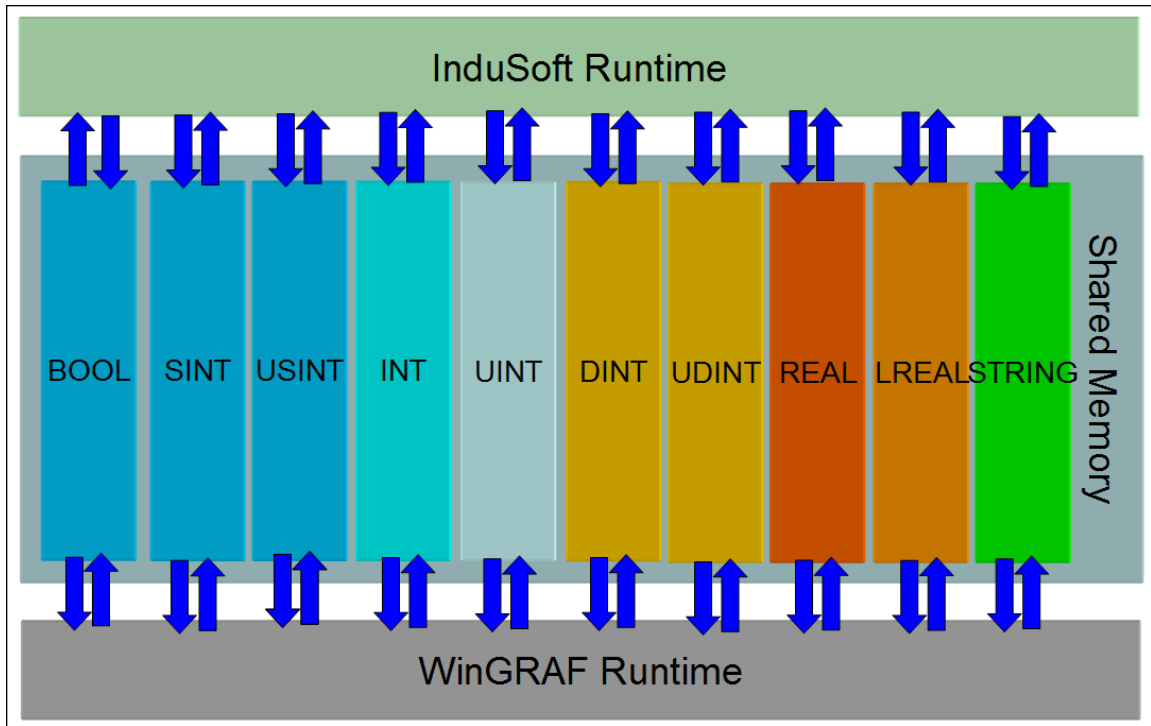

Figure 9: PLC data type memory
For each of these PLC data type a separate shared memory is being created (Figure 9). Both runtimes have read and write access to the memory. It is therefore important to define for each memory an area range which restricts the write access of one of the runtime.
Step 3: Select the data type categories to map. It is necessary to first set the data type of the variable to map. The data type format determines the internal memory sized reserved for this variable (Figure 9).